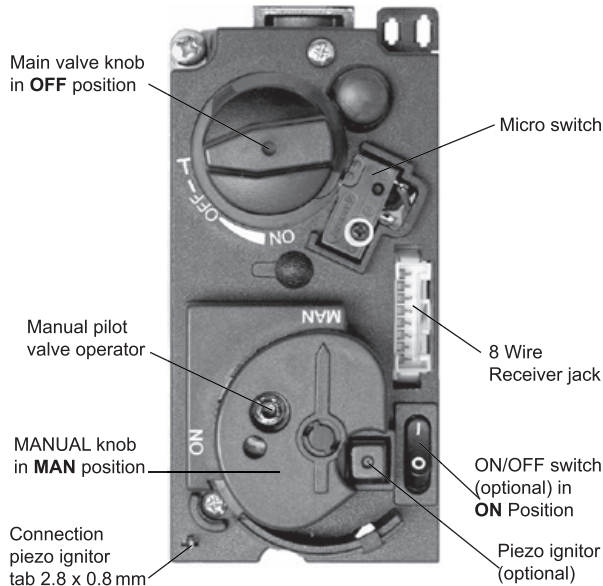

Figure 19
5. Wait five (5) minutes to clear out any gas. Verify that no gas is in the area around the appliance, including near the floor. If you detect gas stop! Follow "What to do if you smell gas" in the safety information on page 14. If no gas is present, proceed to step 6.
8. Fully push down manual pilot valve operator and hold in, to start pilot gas flow (see figure 19, page 22).
Change the ignition cable from the receiver to the valve (see figure 19, page 22). Push in the piezo ignitor to ignite. If pilot does not stay lit, wait five (5) minutes and repeat.